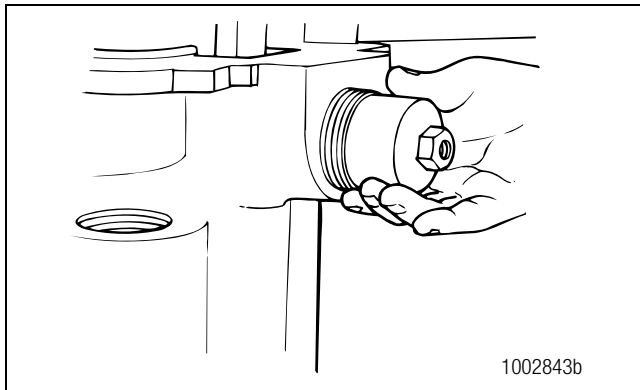

Figure 6.7
4. Remove the shift cylinder and piston assembly from the carrier by turning it to the left. Figure 6.7.